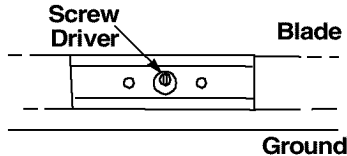

Figure 16
- Test the blade by balancing it on a round shaft screwdriver or a blade balancer. See Figure 16.